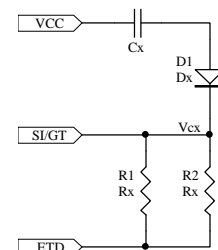

Figure 1.
Before registration of a decoded tone pair, the receiver checks for a valid signal duration (referred to as character recognition condition). This check is performed by an external RC time constant driven by ETD. A logic high on ETD causes **V_{cx}** (Fig. 1,2) to rise as the capacitor discharges. Provided signal condition is maintained (ETD remains high) for the validation period (T₁₂) **V_{cx}** reaches the threshold (ETD) of the steering logic to register the tone pair, latching its corresponding 4-bit code into the output latch. At this point the GT output is activated and drives **V_{cx}** to V_{cc}. GT continues to drive high as long as ETD remains high. Finally, after a short delay to allow the output latch to settle, the delayed steering output flag STD goes high, signaling that a received tone pair has been registered.
- Decreasing T₅ (T₄ > T₅) Fig. 1